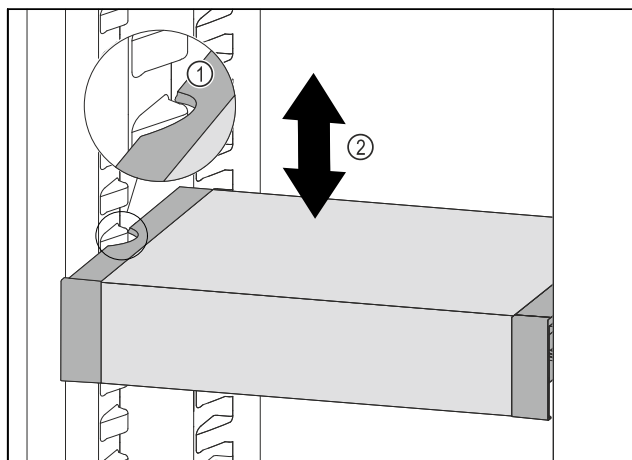

Fig. 99
- ▶ Pull VarioSafe forwards until the recesses in the side of the VarioSafe are at the level of the support rib in the refrigerator compartment. *Fig. 99 (1)*
- ▶ Move VarioSafe up or down in the refrigerator compartment until the desired height is reached. *Fig. 99 (2)*